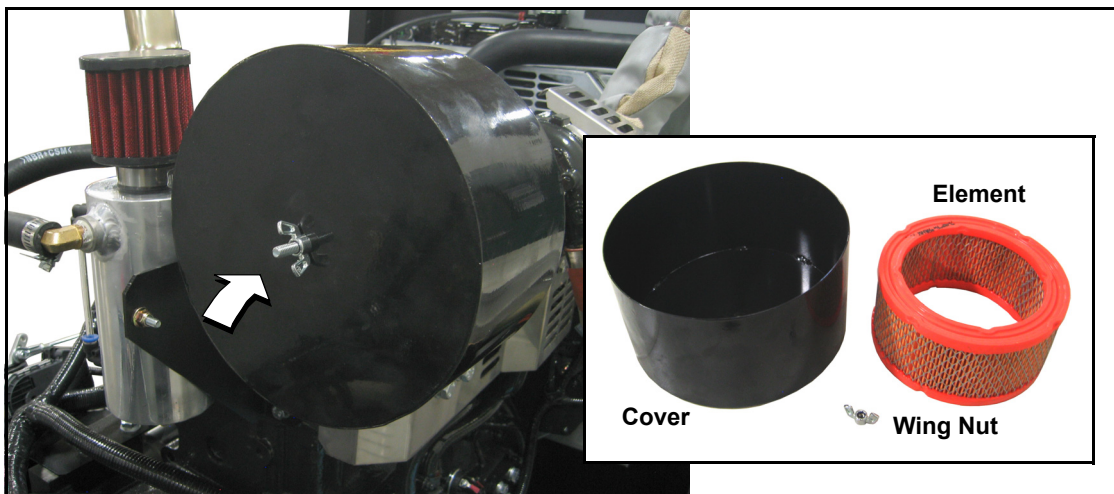

Figure 5-14. Air Cleaner Cover and Filter Element
1. Remove wing nut from threaded rod to release air cleaner cover. See Figure 5-14.